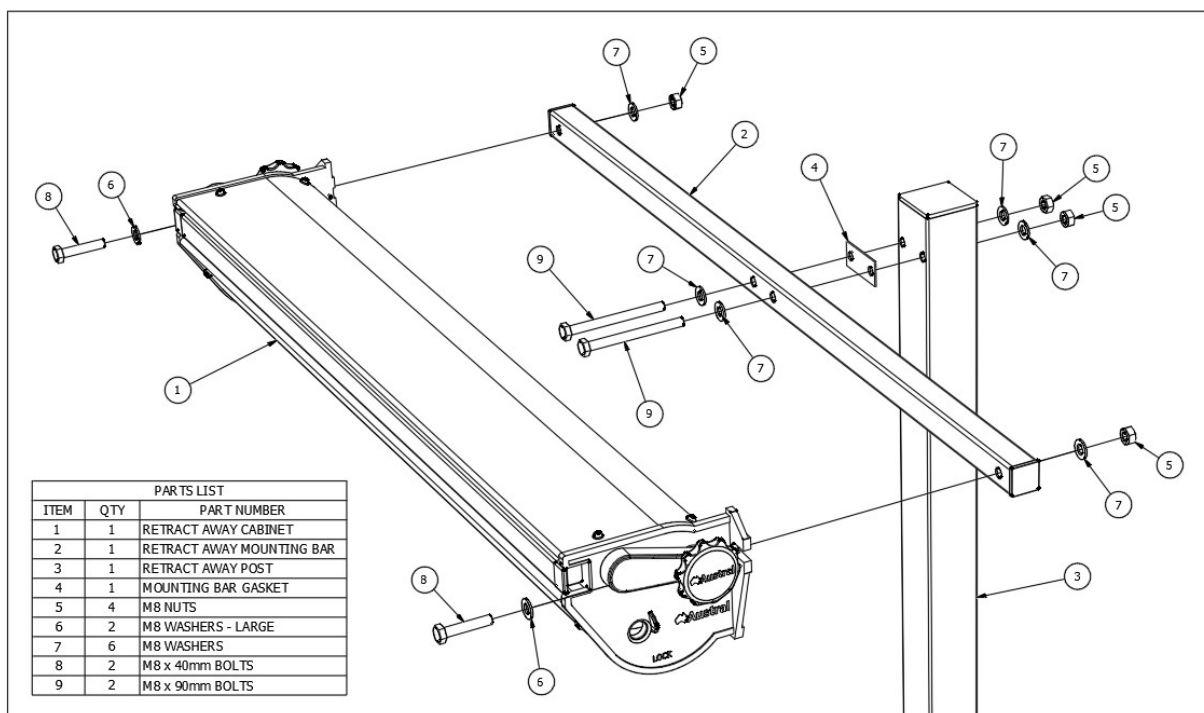

Fig 2. Cabinet installation to Post.
- Fit Cabinet (item 1 - below) as shown in Fig 2. Be sure to fit the Mounting Bar (item 2 - below) before fitting the Cabinet.